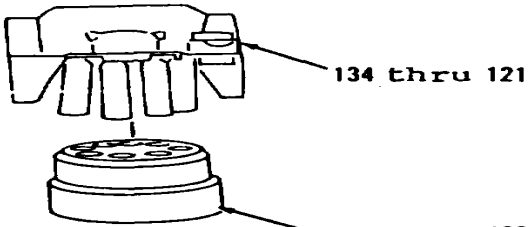
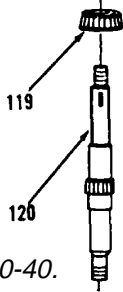

Figure 10-41.
Figure 10-40.
- 35. Position items 138 thru 133 as an assembly (Figure 10-41) on block.
- 36. Install items 134 thru 121 as an assembly in items 138 thru 133 as an assembly.
- 37. Heat bearing (119) in oil to a maximum temperature of 275 degrees F and install on shaft (120, Figure 10-40).